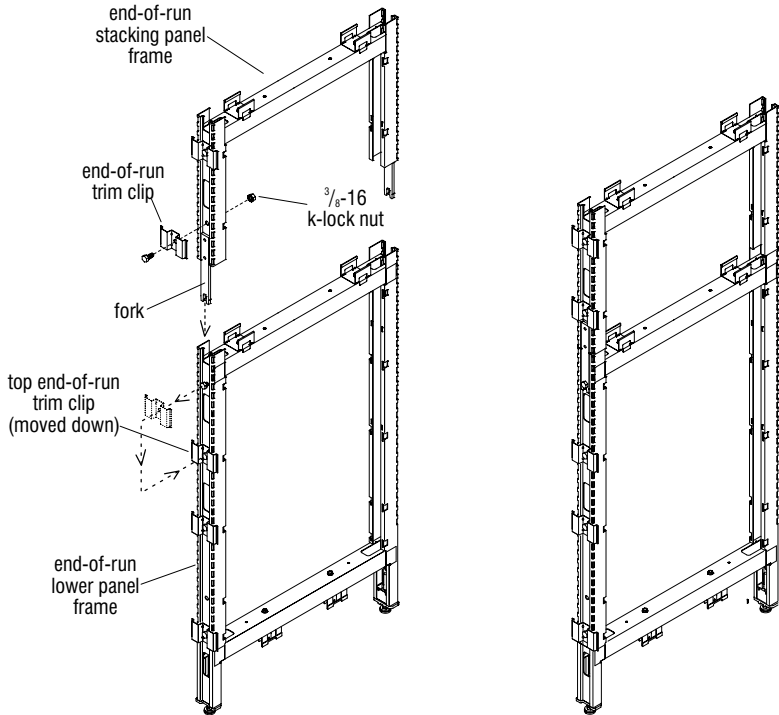

Figure 19 - End-of-Run Clips - with Stacking Panel Frames or Preconfigured Segmented Panels with Glass or Steel Tops
**Important:** If an "end-of-run trim clip" was previously installed to the top of the lower panel, it must be removed and re-installed down one hole location so the fork of the stacking panel can be secured. (See "End-of-Run Trim Clip Installation" on page 18, Figure 19).
2. For "stacking panel frames" (shown Figure 19), or "preconfigured segmented panels with glass or steel tops" (not shown, but similar), end-of-run trim clips install to the upper panel (see "Upper Panel Frame at Height Change" chart below for quantity). For the "end-of-run lower panel frame" (Figure 19), the uppermost end-of-run clip must be re-installed one hole location below the top mounting hole. This is so the "fork" of the stacking panel frame can install to the end of the lower panel frame. Loosely insert a  $\frac{3}{8}$ -16 x  $\frac{3}{4}$ " hex head bolt to the top mounting hole of the lower end panel frame, then twist on a  $\frac{3}{8}$ -16 k-lock nut. The nut must be positioned inside the panel frame and flat washers are not required.
3. Slide/tap the stacking panel frame down at end of the panel frame as illustrated, with the notch of the fork behind the  $\frac{3}{8}$ -16 x  $\frac{3}{4}$ " hex bolt. Tighten the hex bolt and k-lock nut to secure (Figure 19).